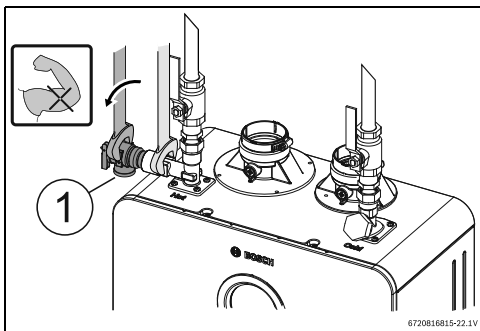

Fig. 25 Plumbing Connections (with shutoff valves) and Pressure Relief Valve
- ▶ Use the integrated port to install the PRV, see Fig. 25 [1].
- ▶ Tighten the PRV with the support of a wrench, see Fig. 25.
- ▶ Full port shutoff valves should be installed on both the cold water supply and hot water outlet lines to facilitate servicing the heater (see fig. 25).